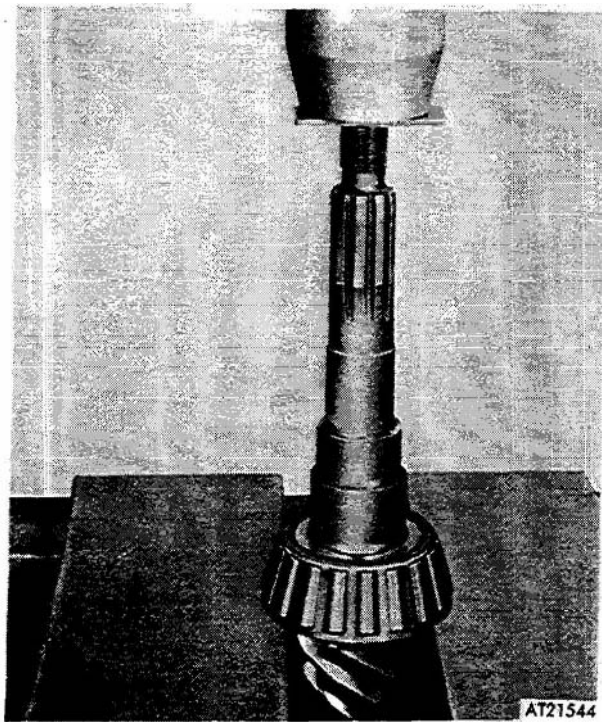

Figure 3-171. Pressing bearing from rear differential pinion.
(6) Remove collapsible spacer (II, fig 3-166) from pinion (13). Press bearing (12) from pinion (fig 3-171)